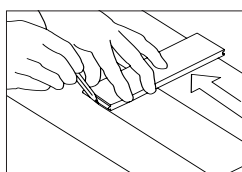

Figure 11
- **Sacrificial board:** If the wall is not straight, scribe the first board (Figure 11) as necessary to maintain alignment with the chalk line. Install a sacrificial board (with a straight edge) using the appropriate fasteners for the subfloor. If a board is used for the starter row make certain the groove faces the wall.
- **Wedges:** Align the first row with the wall using wedges to maintain a 1/2" (13 mm) expansion in place and to stabilize the product. If the wall is not straight, scribe the first board (Figure 11) as necessary to maintain alignment with the chalk line.